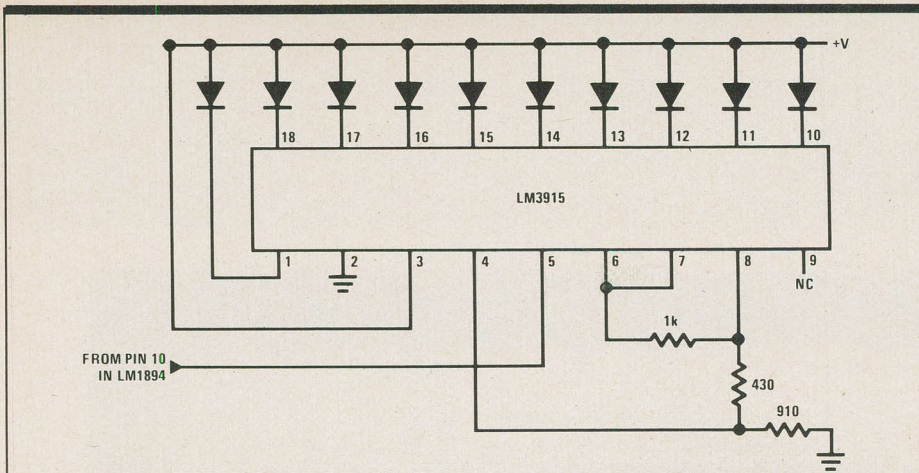

Fig. 3. The LED display circuit which displays the bandwidth of the unit. This display can be omitted.
Figure 3 is an optional bandwidth meter. It uses a standard bargraph chip, the LM3915, and ten LEDs to show you what the instantaneous bandwidth of the filter is. It takes a bit of getting used to, because it does not show you the level of the signal.
2. High Performance Op Amps, by Ray Marston. ETI, August 1982, page 50, figure 3.